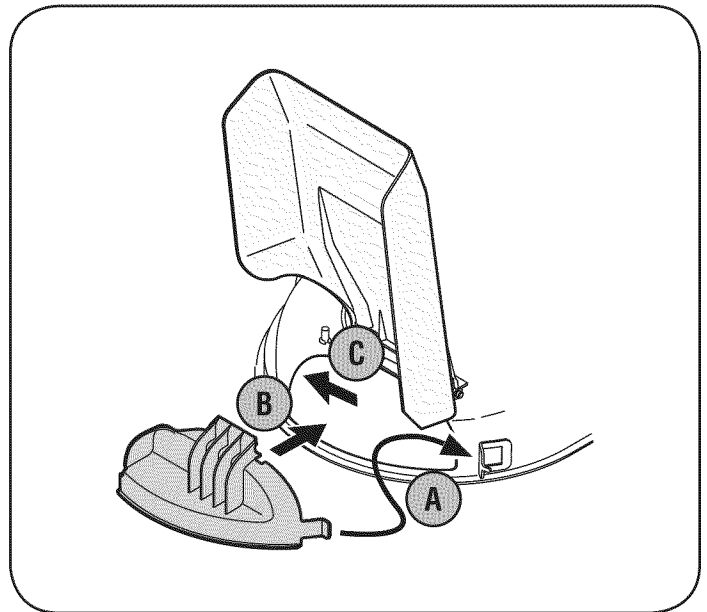

Figure 12
2. Insert the right-side tab (A) of the baffle into the bracket on the deck. See Figure 12.